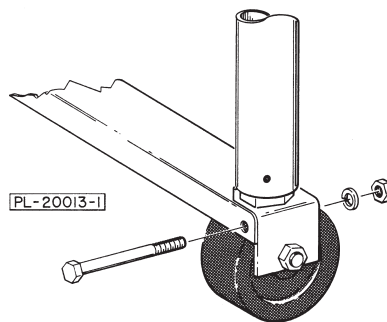
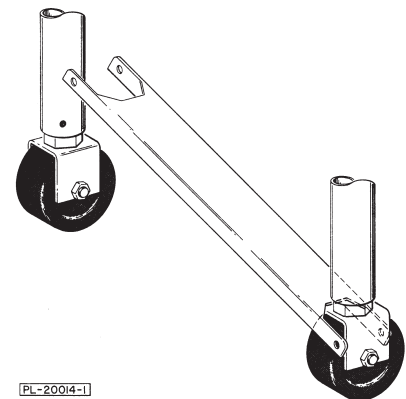

Fig. 2
Fig. 3
10. The height of each leg can be adjusted by loosening the two set screws located at the bottom of the outer leg tube (See Fig. 2).
13. Install the alignment bracket between the two rigid casters as shown in Fig. 3. Insert the $\frac{1}{4}$ -20 x $2\frac{3}{4}$ screw through its mounting hole, under the caster saddle and through the hole on the other side of the bracket, as shown in Fig. 2.
14. The two rigid casters on the front of the machine will be parallel to each other and oriented so that the wheel will roll in the front-to-back direction only. (See Fig. 3).